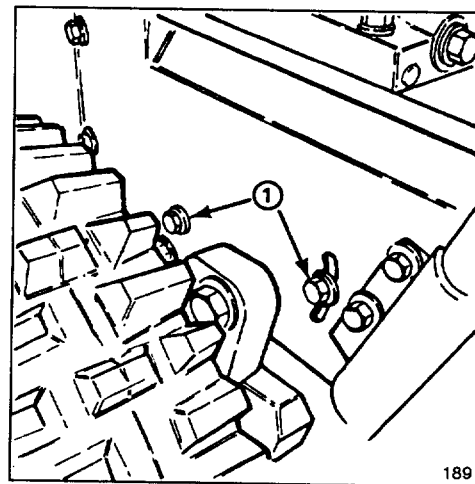

Figure 34
4. Loosen (4) flange head capscrews (2 each side) securing transmission frame to engine frame (Fig. 34).